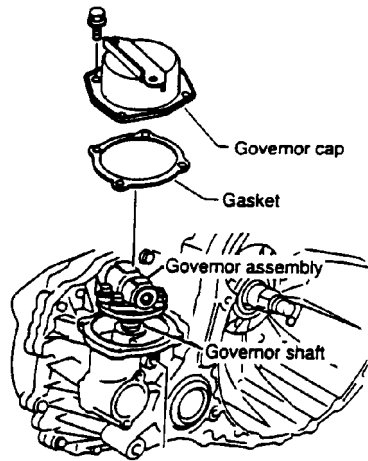

Figure 1
4. Install the new governor assembly (31860-24X04) on the governor shaft, and torque bolts (4) to 3.6-5.1 ft. lb. (See Figure 1).